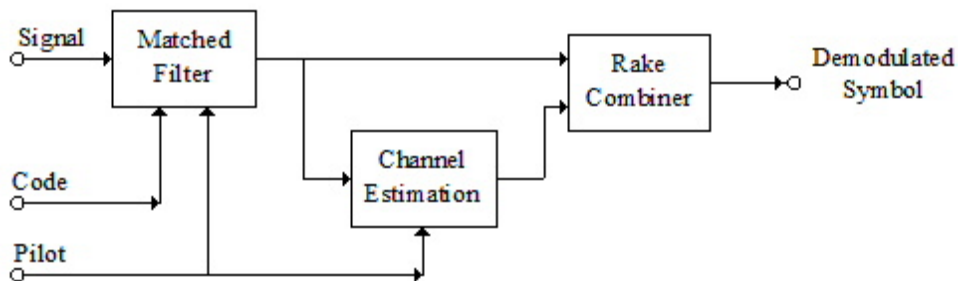

Fig. 2 Block diagram of Rake receiver
3. In order to understand this model better, a block diagram of Rake receiver used in time-multiplexed pilot channel is given, as shown in Fig.2.